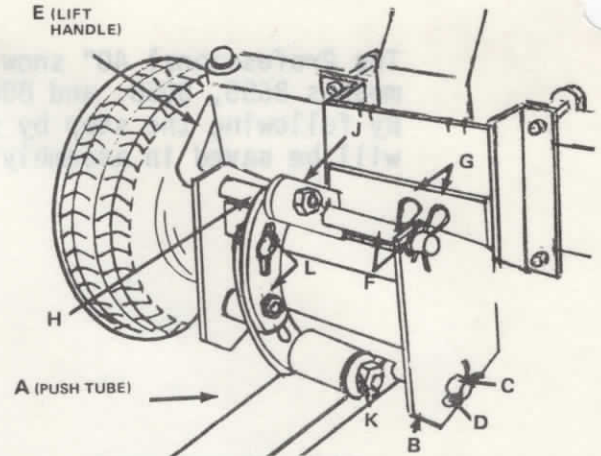

FIG. 5
Insert Push Tube (A) between lower holes in Mount Bracket (B). Push Pivot Rod (C) through mount bracket holes and push tube. Secure with two 5/32" x 1-1/4" Cotter Pins (D) as shown in Figure 5.
Install Lift Handle (E) through mounting bracket and secure with two 21/32" Washers (F) and two Hair Pin Cotters (G) as shown in Figure 5.
Install one Link Lift Bracket (H) with divet on bottom to the Lift Assembly (E) with one 1/2"-13 x 1-3/4" Hex Bolt, three 17/32" Washers between lift bracket and lift assembly and one 1/2"-13 Hex Lock Nut as shown in Figure 5 at (J). Install other lift bracket (H) to push tube assembly (A) with one 1/2"-13 x 3" Hex Bolt, one 17/32" Plain Washer and one 1/2"-13 Hex Lock Nut as shown in Figure 5 at (K). Bolt the two lift brackets together with two 3/8"-16 x 1" Carriage Bolts, two 13/32" Plain Washers, two 3/8" Lock Washers, and two 3/8"-16 Hex Nuts as shown in Figure 5 at (L). Adjust lift link brackets by blocking blade approximately 1-1/2" off the ground and tightening bolts in links with lift lever in the down position.